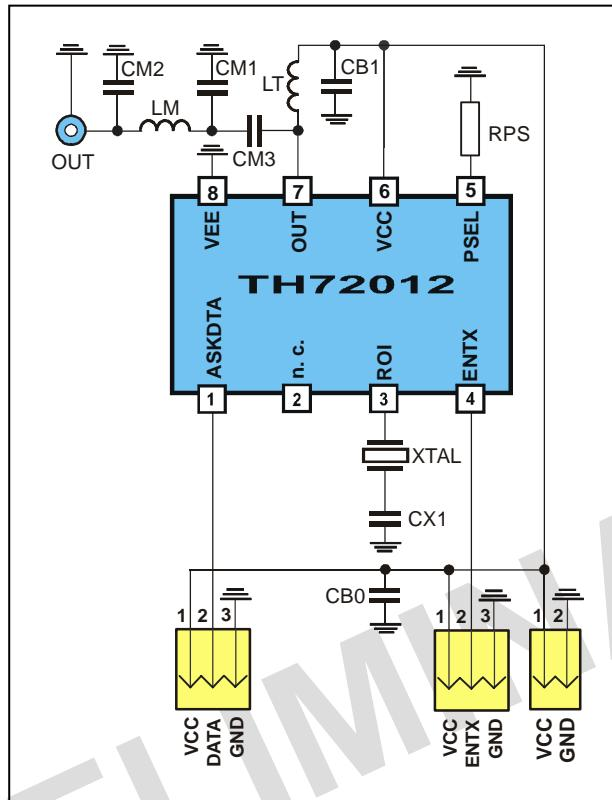

Fig. 5: Test circuit for ASK with 50Ω matching network
typical values at $T_A = 23^\circ\text{C}$ and $V_{CC} = 3\text{ V}$; test circuit shown in Fig. 5, $f_c = 433.92\text{ MHz}$
ENTX = 1, $f_c = 433.92\text{ MHz}$, test circuit shown in Fig. 5
5.1 Test circuit component list to Fig. 5